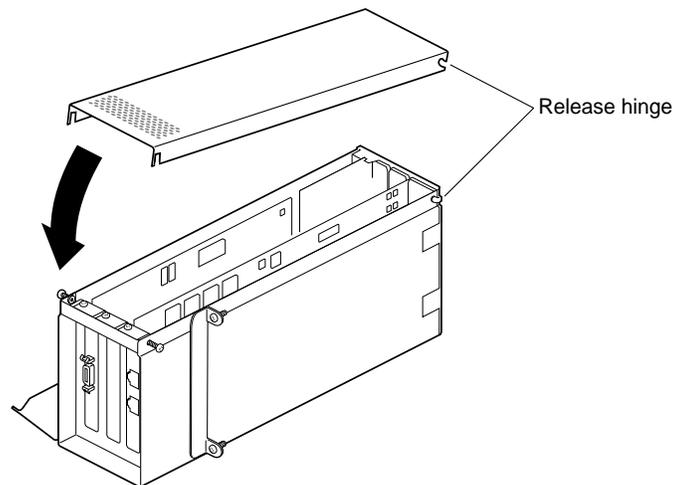

Figure 4-44 Reinstalling the PCI Module Door
10. Reinstall the PCI module door, as shown in Figure 4-44.